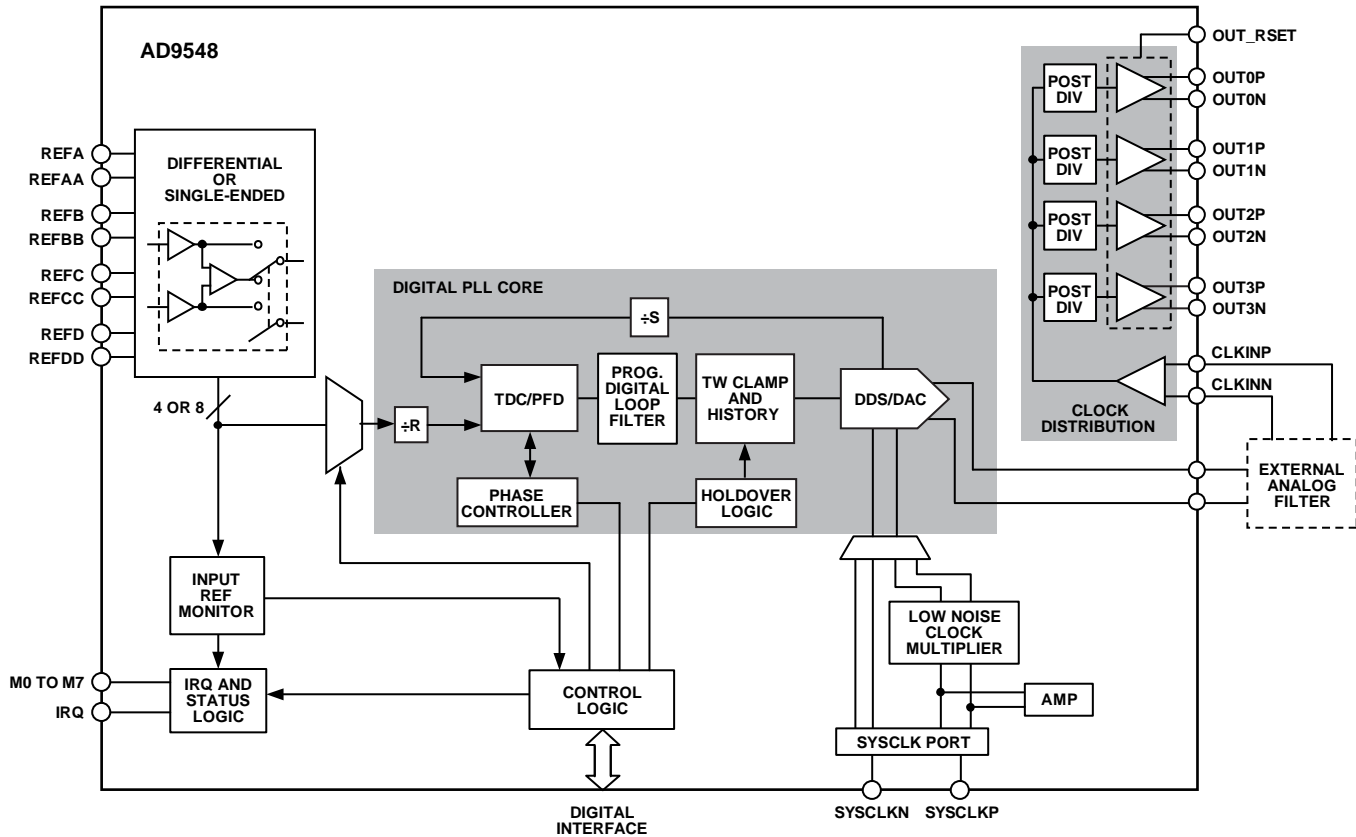

Figure 33. Detailed Block Diagram
The device offers manual and automatic reference switchover capability if the active reference is degraded or fails completely. A direct digital synthesizer (DDS) and integrated DAC constitute a digitally controlled oscillator (DCO). The DCO output is a sinusoidal signal (450 MHz maximum) at a frequency determined by the active reference frequency and the programmed values of the reference prescaler (R) and feedback divider (S). Although not explicitly shown in Figure 33, the S-divider has both an integer and fractional component, which is similar to a fractional-N synthesizer.